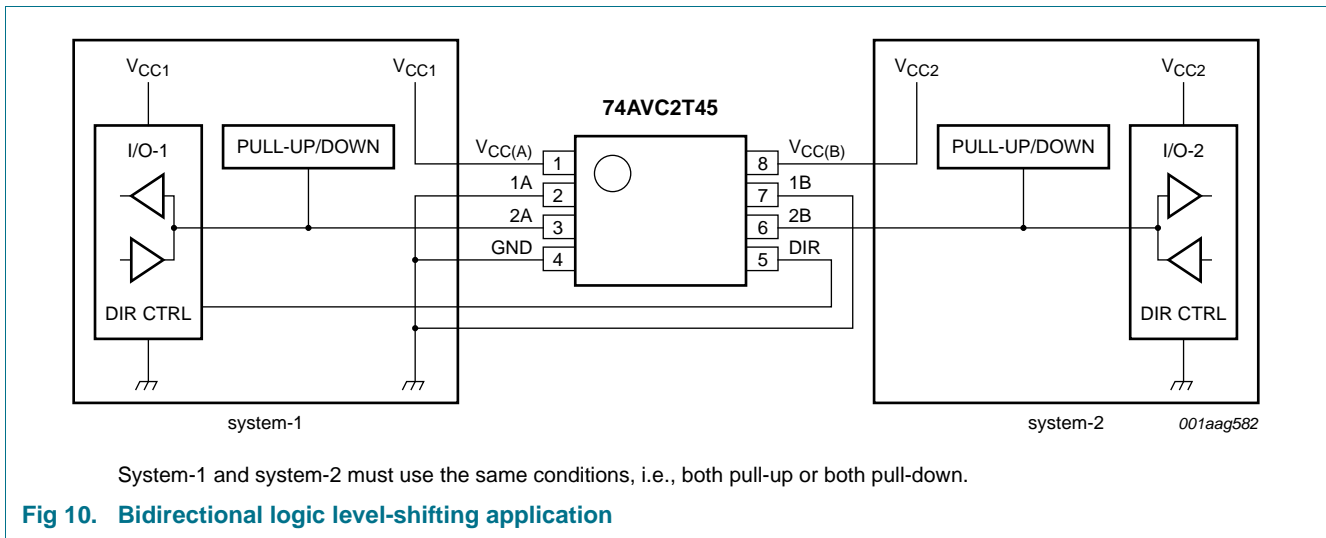

Fig 10. Bidirectional logic level-shifting application
Figure 10 shows the 74AVC2T45 being used in a bidirectional logic level-shifting application. Since the device does not have an output enable (OE) pin, the system designer should take precautions to avoid bus contention between system-1 and system-2 when changing directions.